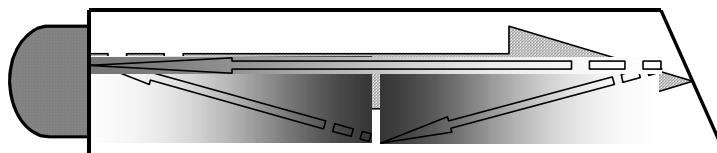

Figure 5 Non Parallel reflecting Surface
- Reflecting bolt ends not perpendicular to the axis of the bolt. Sonic energy will be reflected toward the sidewall of the bolt, as shown in Figure 5.